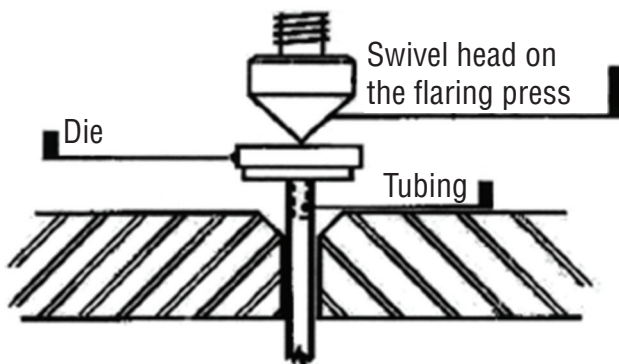

Fig. 4
8. Turn the T-bar to force the flaring cone down until the flaring die rests flat on the tubing vise (Fig. 4).